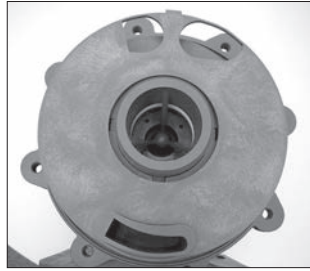

Figure 49
12. Install the separator plate (item 4) by lining up the bottom opening of the inner volute with the opening in the plate. Line up the slots in the separator plate with the notches in the inner volute. See figure 49.